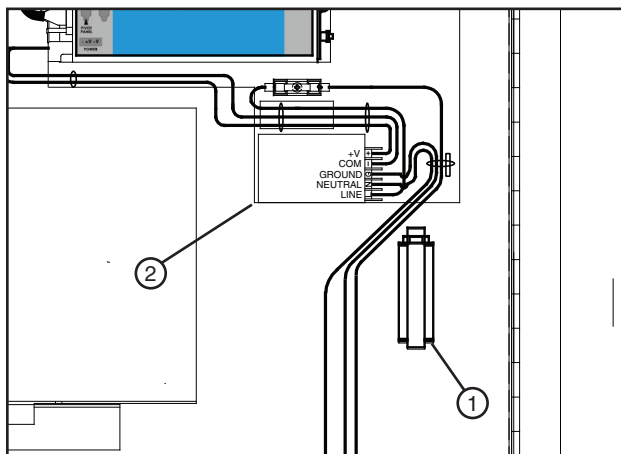

Figure 12-2 1. New Flat Cable Clamp 2. Mounting Panel
- If the existing flat cable clamp was removed, install the new flat cable clamp (from kit) below the mounting panel. See figure 12-2.